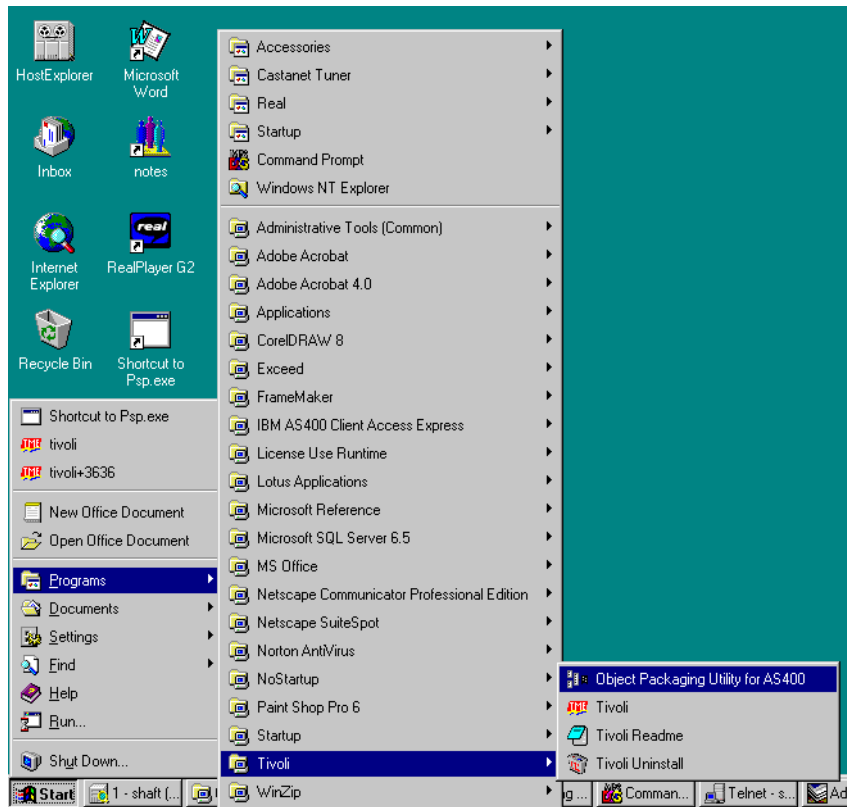

Figure 254. Starting Tivoli Object Packaging Utility for AS/400
A special graphical tool, called the Tivoli Object Packaging Utility for AS/400, is available on the Tivoli AS/400 CD-ROM to make object packaging process easier. Figure 254 on page 415 shows the GUI of the object packaging tool. The Object Packaging Utility for AS/400 provides a Windows interface to AS/400 systems in the network. Because an AS/400 Endpoint cannot currently serve as the source host of a distribution, the Object Packaging Utility enables you to create a file package block of files and directories that contain AS/400-specific files to be packaged, set distribution options, and specify any configuration programs that will run on the target during a distribution. The Object Packaging Utility creates a file package block of the selected data, which you can distribute using Tivoli Software Distribution commands.
2. Then, go to the Start menu, and select the **Programs -> Tivoli -> Object Packaging Utility for AS/400** menu, or run the Object Packaging Utility by double-clicking on the **as4pack.exe** icon from the ObjPackAS400 window. See Figure 254 on page 415.